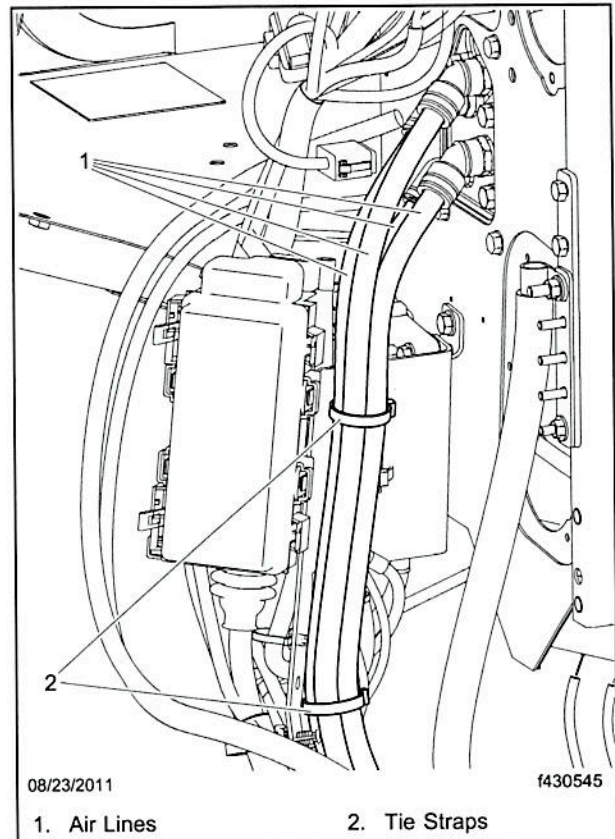

Fig. 5, Air Line Installation, New Bracket
17. Secure the air lines to the PNDB/PDM mounting bracket, then connect them to the foot valve pass-through. See Fig. 5.